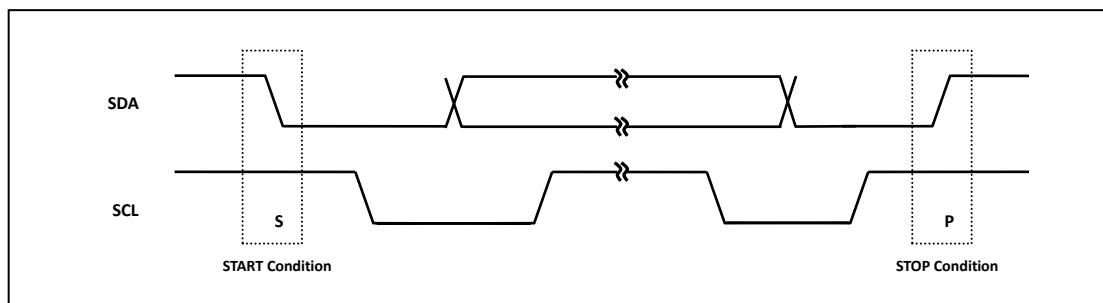

Figure 11.6 START and STOP condition
Within the procedure of the I²C-bus, unique situations arise which are defined as START(S) and STOP(P) conditions (see Figure 11.6.).